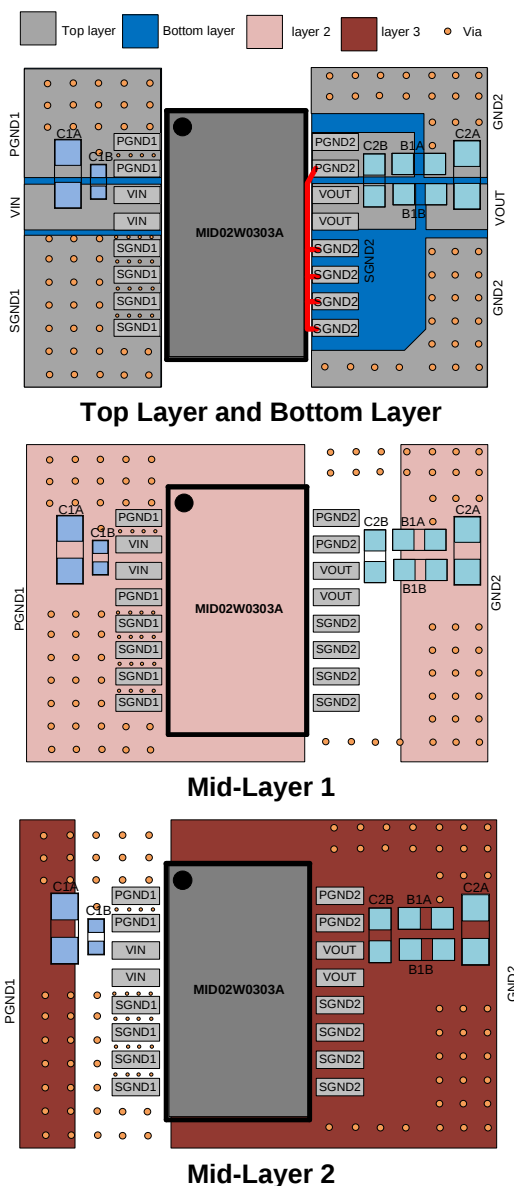

**Figure 2: Recommended EMI Schematic**
8) See Figure 2 on page 9 and Figure 3 on page 10 for details on the EMI circuit and PCB layout.
There are two main techniques used for PCB layout. Figure 2 and Figure 3 on page 10 show examples of layouts that are CISPR 32 Class B certified. The first technique to reduce EMI is to build a low-ESL Y-capacitor using a 4-layer PCB layout to filter high-frequency noise on the secondary side. The Y-capacitor is formed with the two overlapping middle layers. Mid-layer 1 is the PGND1 copper plane, which forms the Y-capacitor's top plate. Mid-layer 2 is the ground after the ferrite bead (GND2), which forms the Y-capacitor's bottom plate. More overlap in these layers provides a larger Y-capacitor value, which further reduces EMI. The second technique to reduce EMI is to use stitching vias
Aside from the two PCB layout techniques described above, a pair of ferrite beads are required to form a CLC structure filter (see Figure 2). Place this filter as close to VOUT and PGND2 as possible. The capacitor closest to the IC (C2B) should be  $\geq 4.7\mu\text{F}$  to ensure a stable output. Do not place large copper areas on the secondary side pins, as this can increase switching noise and EMI. Connect SGND2 and PGND2 using a thin trace.